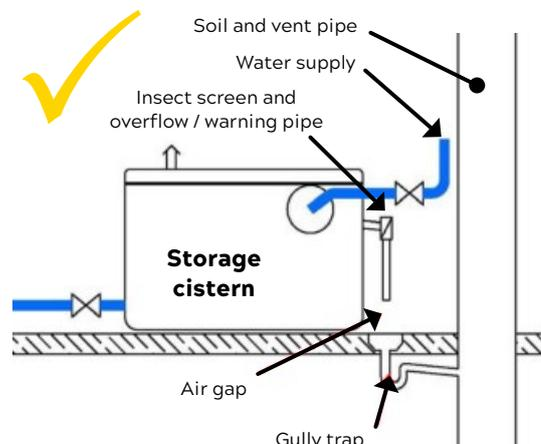

Figure 13: How to install an overflow using a gully trap
- Water traps used in floor gullies (Figure 13) should only be used in areas where the water seal will be replaced on a regular basis otherwise a mechanical seal should be used.